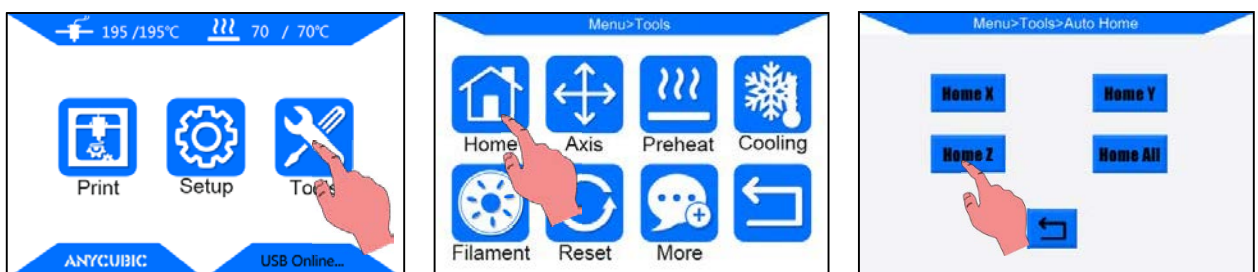

Figure 7
Step 2. As shown in Fig.7, on Home Menu, click "Tools"-->"Home"-->"Home Z". Lock the Z axis to prevent the Z axis from falling during leveling.